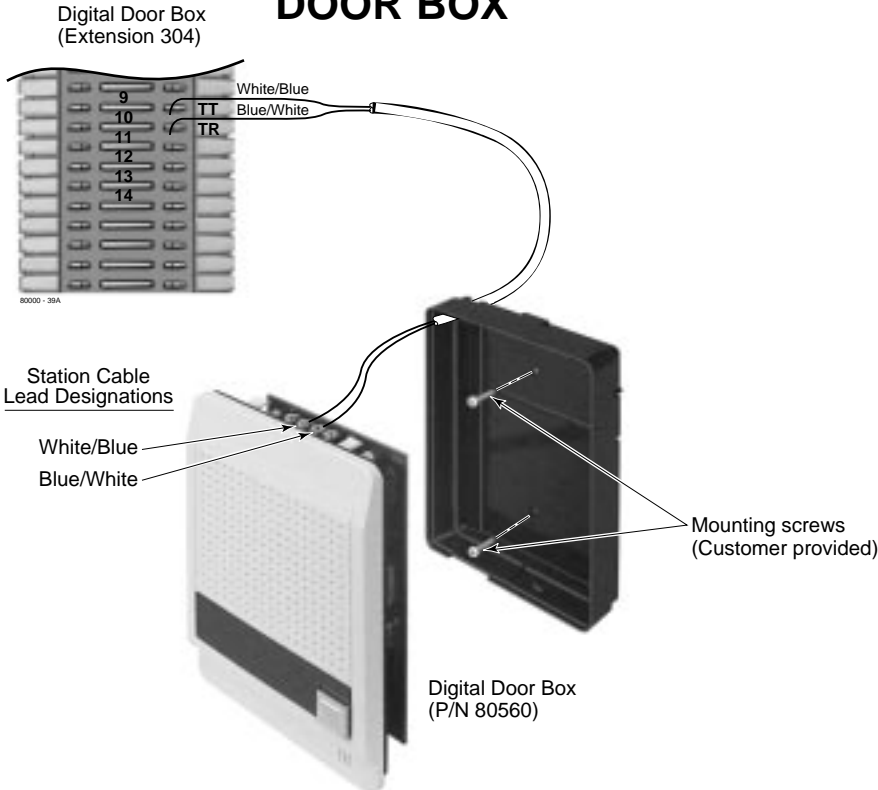

Figure 4-2 CONNECTING A DOOR BOX
Installing the Digital Door Box (Figure 4-2)
2. Punch down one end of a two-pair twisted station cable on the extension block as shown in Figure 4-2.